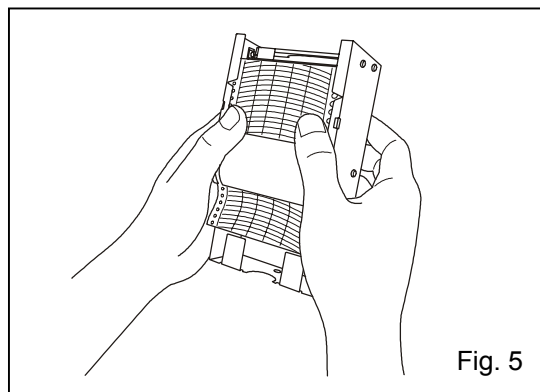

Fig. 5
5. Place the recording paper between the guide and the guide plate. Slide the recording paper along the guide plate so that the recording paper will not be forced out of the date/hour slot. See Fig. 5.